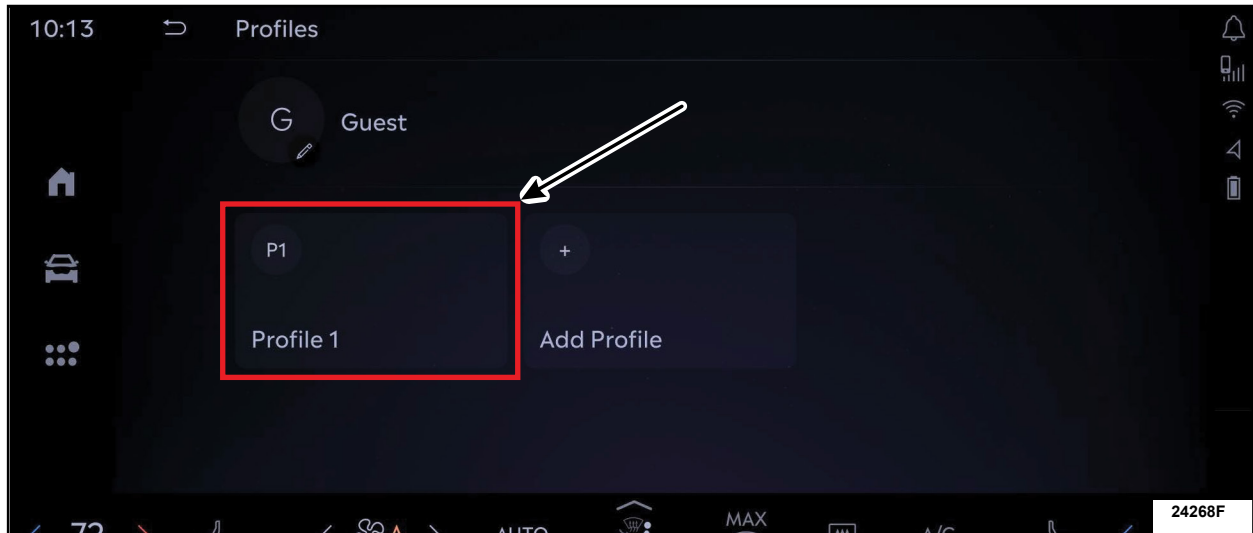

FIGURE 3
12. Select any other profile on the profile selection screen to switch out of the guest profile. See Figure 3.